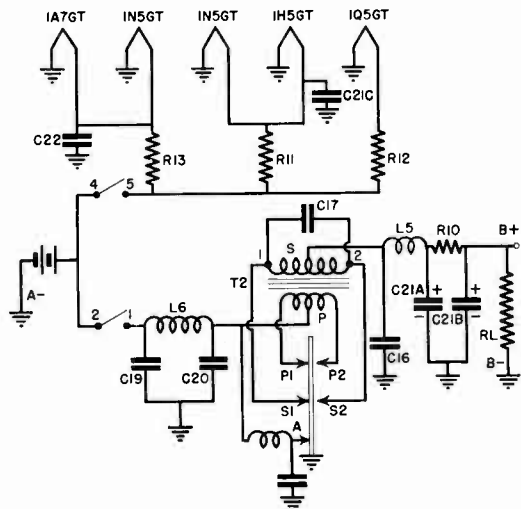

Fig. 2. Switch contacts 2-1 and 4-5 are closed in BATTERY position.
**Switch in Battery Position.** In Fig. 2 we see how the battery is used as a source of power for the receiver. When the switch is thrown to the battery position, sections 4-5 and 2-1 are
closed. The filaments are supplied through section 4-5 and the series resistors marked R13, R11 and R12. As shown in Fig. 2, one side of each filament is grounded, as is the negative lead of the battery.